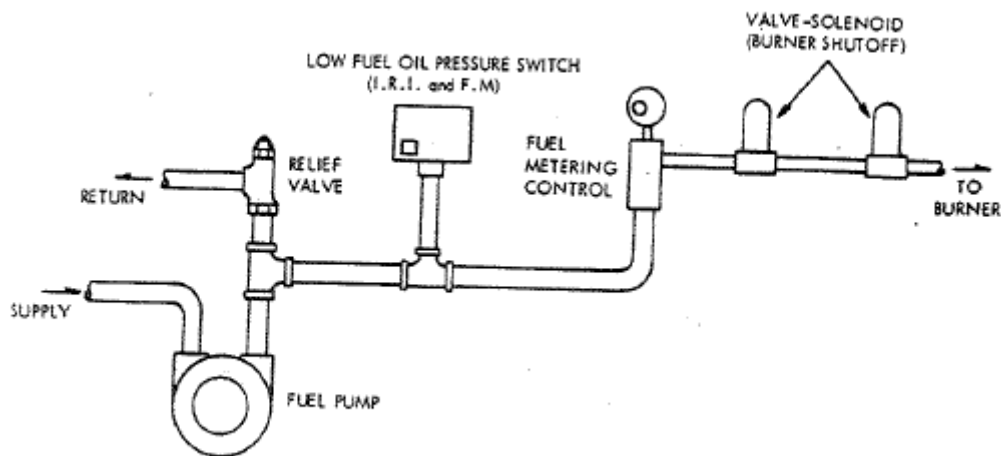

Figure 15, Fuel Oil Piping I.R.I. and F.M.
10.1.13 Boiler installations under the jurisdiction of I.R.I. (formerly F.I.A.) or F.M. require additional equipment. The standard Vapor Power Boiler Fuel Oil Piping conforms to I.R.I. and F.M. requirements. The exceptions to the standard piping are shown in Figure 15.